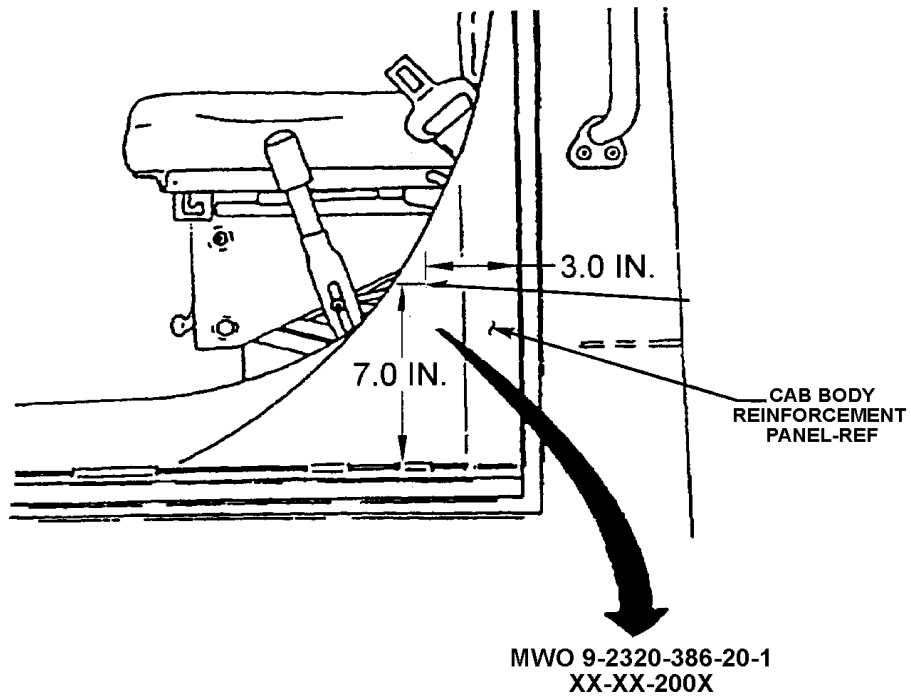

Figure 3
- b. **Marking Equipment.** After Air Pressure Relief Valve Kit is installed, stamp "MWO 9-2320-386-20-1" and the date installed on the Cab Body Reinforcement Panel using metal stamping die set (5110-00-293-1905) (see figure3).
**15. MATERIAL CHANGE (MC) NUMBER**